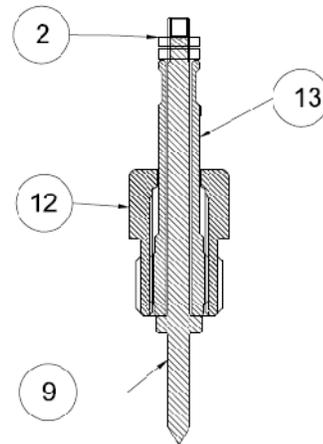

Fig. 1.2
- Turn the handle (13) until it is stopped by the shoulder on the top of the bonnet (12). (Stem moves up). This step will save the stem from damaging the tip in the next step.
- Apply grease on the external thread of the bonnet (12). Install the bonnet assembly (Fig.1.2) into the valve body (11)
- Do not over-tight bonnet assembly (fig 1.2) into the valve body. This will damage the packing.